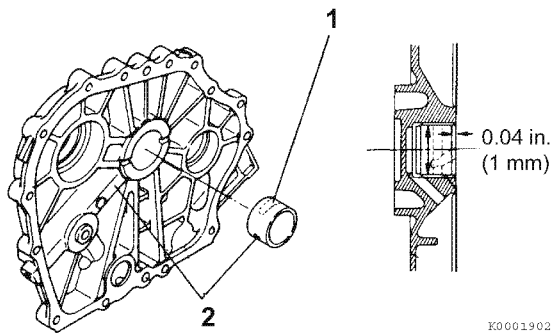

Figure 6-61
Inspect the main bearing (1, **Figure 6-61**) for discoloration, separation or other damage.
1. Measure the inside diameter of the main bearing insert (1, **Figure 6-61**) in the crankcase cover. See *Crankshaft* on page 6-7 for the service limit. Record the measurements.
- 2- When installing the new bearing insert, make sure the oil groove (1, **Figure 6-61**) is facing up and that the oil hole is facing the oil port (2, **Figure 6-61**). Install to a depth of 0.04 in. (1 mm) from the thrust surface (**Figure 6-61**).